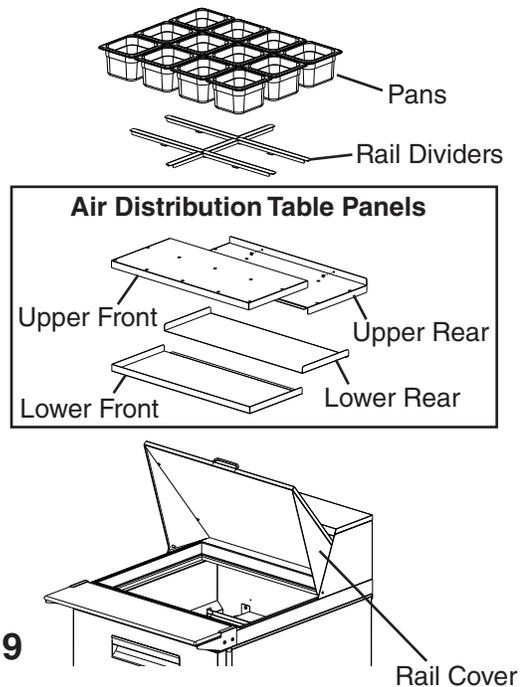

Fig. 19
- 3) Remove the pans and dividers from the rail. See Fig. 19. **WARNING! Support the rail cover when cleaning. Otherwise, the rail cover could close suddenly and cause injury.**